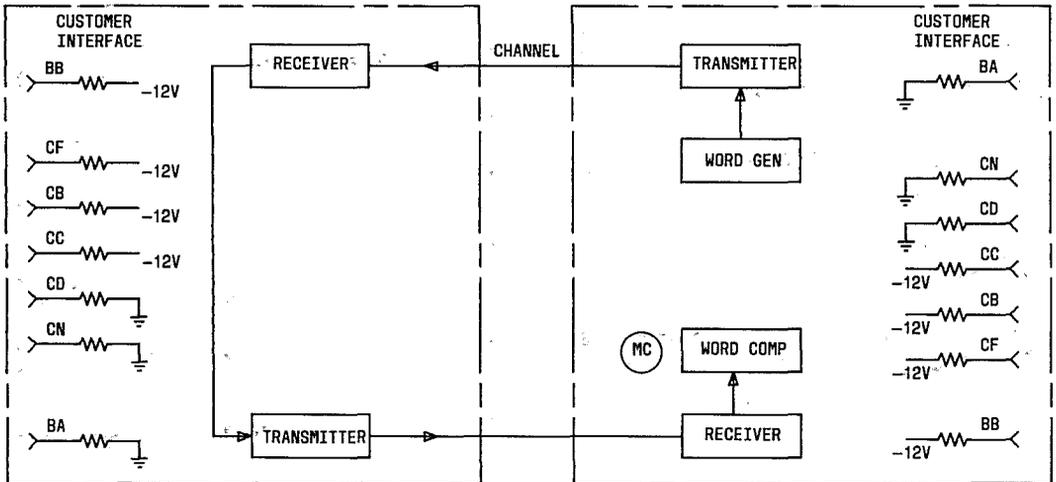

Fig. 6—Digital Loopback Self Test—Simplified Block Diagram
- (3) Release AL and ST switches.
4.04 This test checks the transmitter and receiver of a local and a distant data set and the facilities connecting the data sets (Fig. 6). The